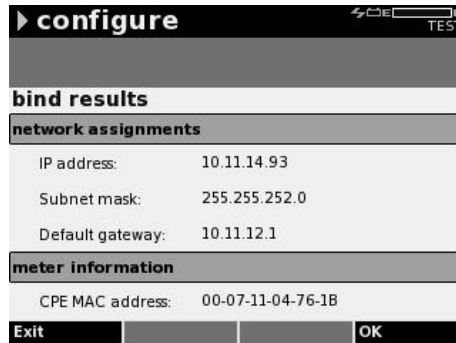

Figure 42 Configure – Bind Results
- 11** From the Bind Results screen (Figure 42), type the IP address.